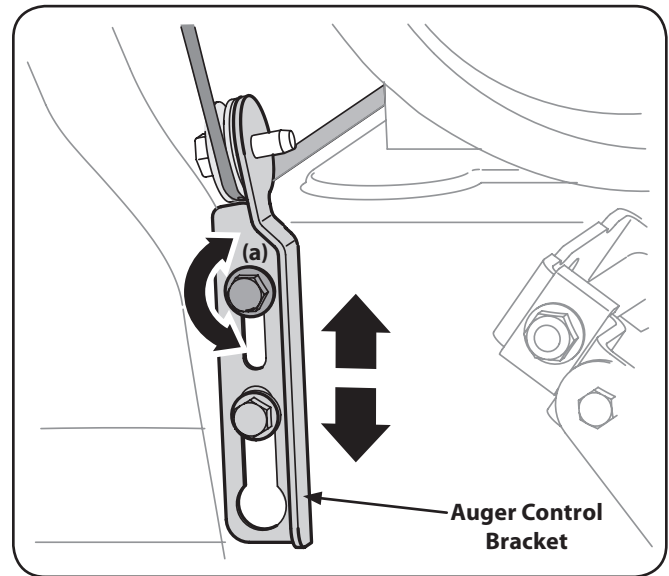

Figure 3-13
4. Allow the auger to remain engaged for approximately ten (10) seconds before releasing the auger control lever. Repeat this several times.
8. Position the bracket upward to provide more slack (or downward to increase cable tension). See Figure 3-13.